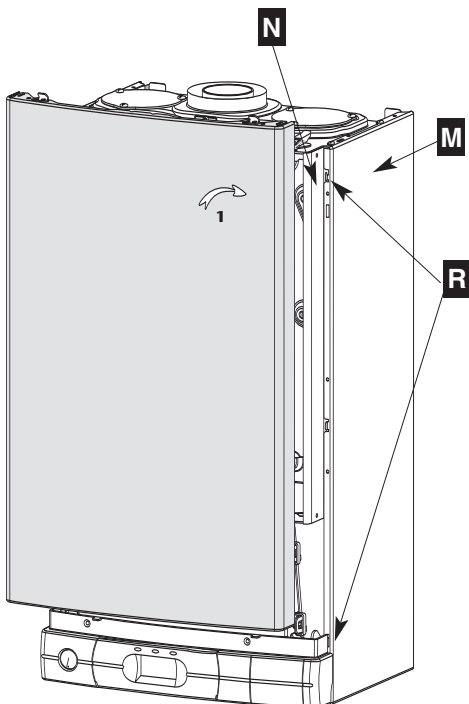

Fig. 40
- Engage hooks **N** on the casing in notches **R** on the side panels **M** operation (Fig. 40)